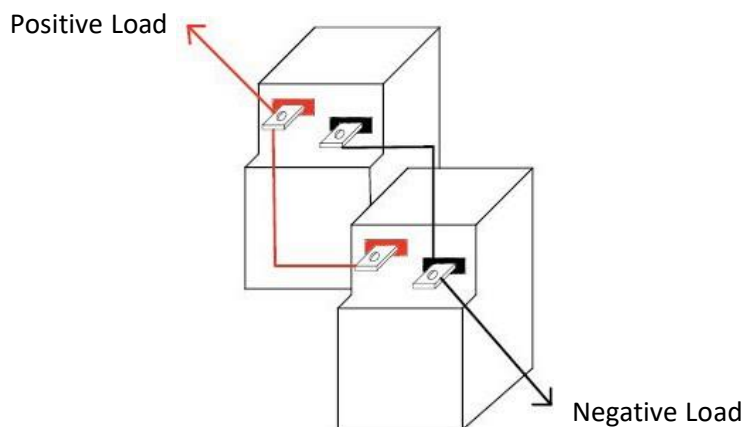

Figure 3: Two GC2/GC2H Batteries connected in Parallel to create a 12V 200Ah Battery Bank
Multiple BBGC2 | BBGC2H batteries may be connected in parallel to increase the capacity and current of the system. When batteries are connected in parallel, the voltage of the system does not change, but the capacity and current limits are additive. For example, two BBGC2 | BBGC2H batteries connected in parallel (shown in Fig. 3) create a 12V 200Ah bank that can deliver 200A continuously and 400A for 30 seconds.
7. Repeat steps 3-6 for additional batteries in the system. An example of a finished connection can be found below in Fig. 3.